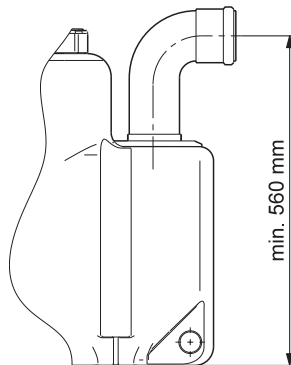

Fig. 8 Minimum inlet height for MLD
**Note:** The minimum inlet level for MLD is 560 mm, see fig. 8. The lifting stations also have a vertical DN 50 inlet port at the top of the tank for inflow from washbasin, shower, etc. Connect a DN 70 vent pipe to the tank by means of the flexible connection supplied. The vent pipe must be led out into the open air in accordance with local regulations.